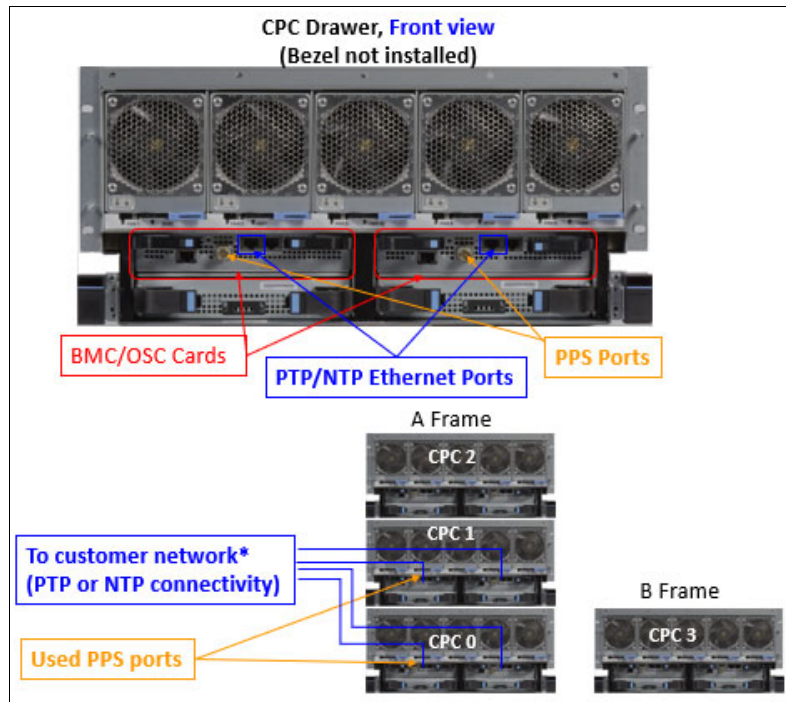

Figure 2-11 Recommended PPS cabling
- ▶ The following PPS plugging rules apply (see Figure 2-11 on page 28):